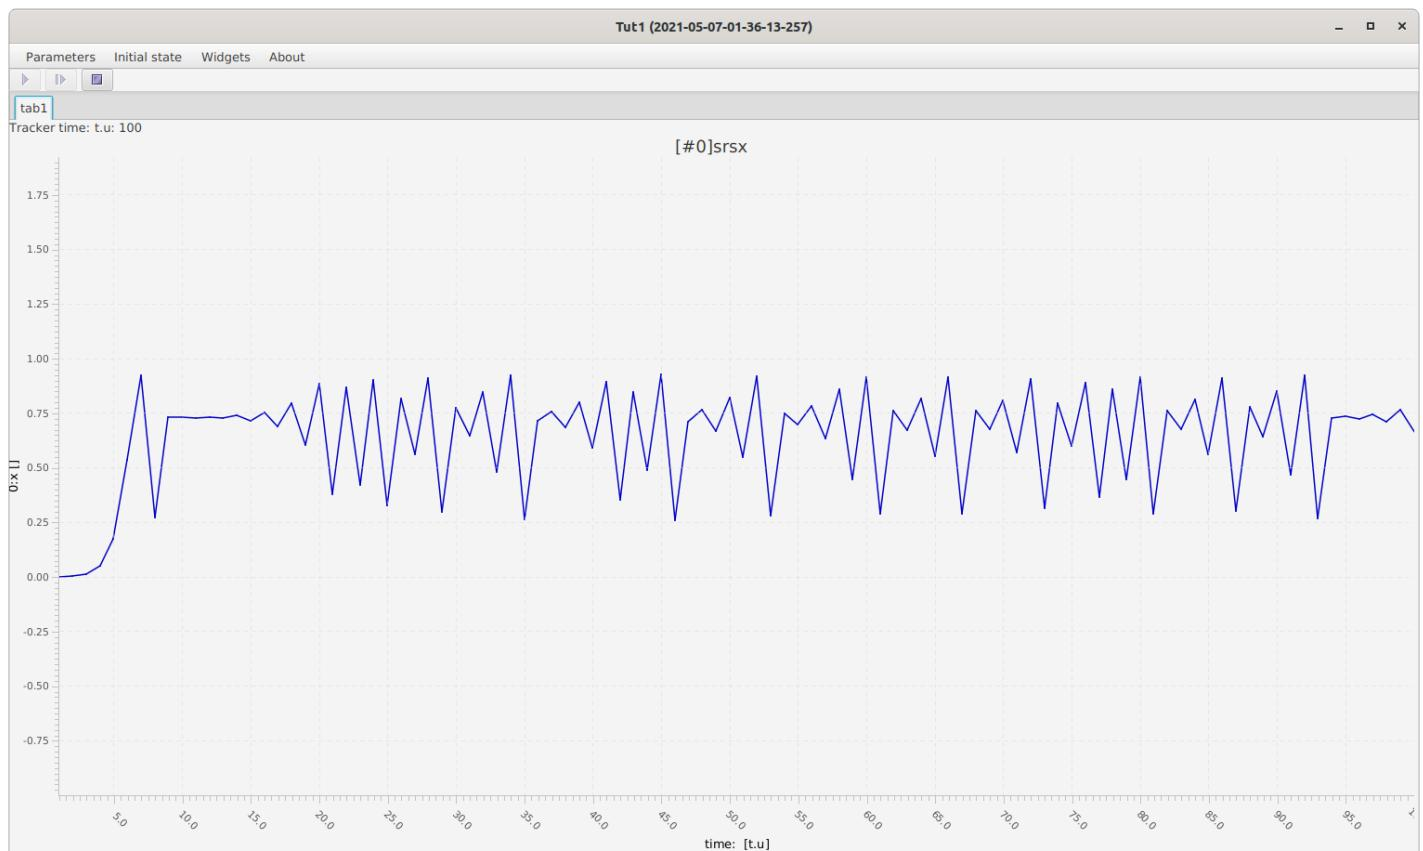

Figure 33. The appearance of ModelRunner while running Tutorial 1.
22. Save, re-deploy and run the simulation. You'll now see a time series of the chaos function of 100 time steps (Figure 33).